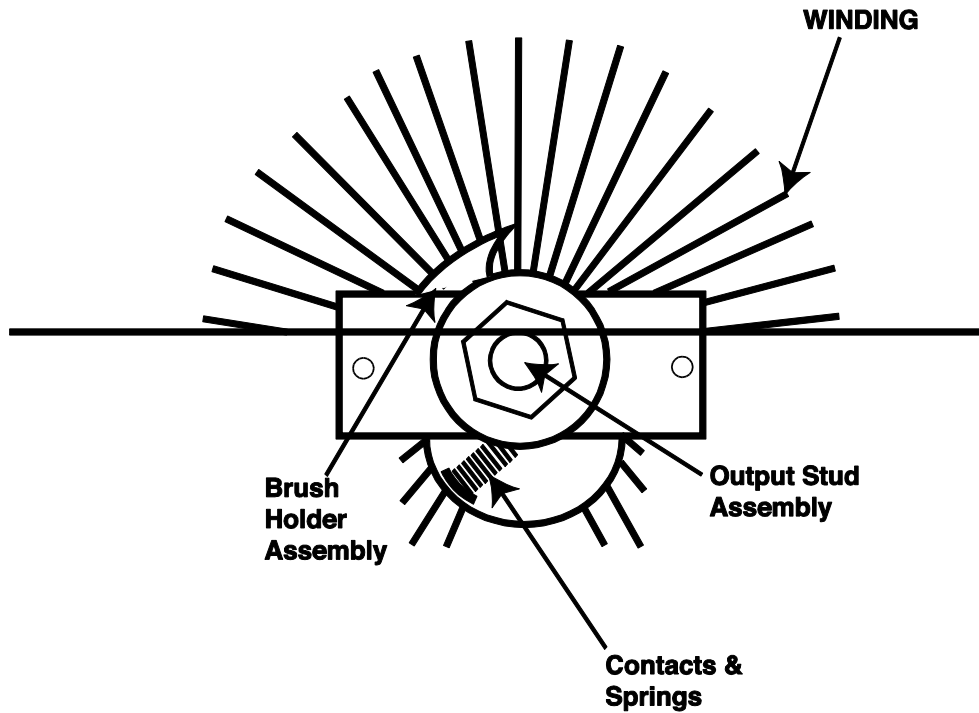

Figure F6
4. Carefully examine the unit. Check for arc damage, missing or broken springs, burned and/or badly worn contacts. Also look for missing or damaged insulators, poor lead connections and damaged lead insulation. If there is serious damage to the inside diameter of the winding, the Output Control Unit should be replaced. See **Figure F6** and **Figure F7**.
8. Remove the two screws holding the Brush holder stud assembly. Use caution, the shaft is under spring tension. The stud assembly and the rotating brush holder/contact assembly can now be removed through the back of the unit. See **Figure F6** and **Figure F7**.